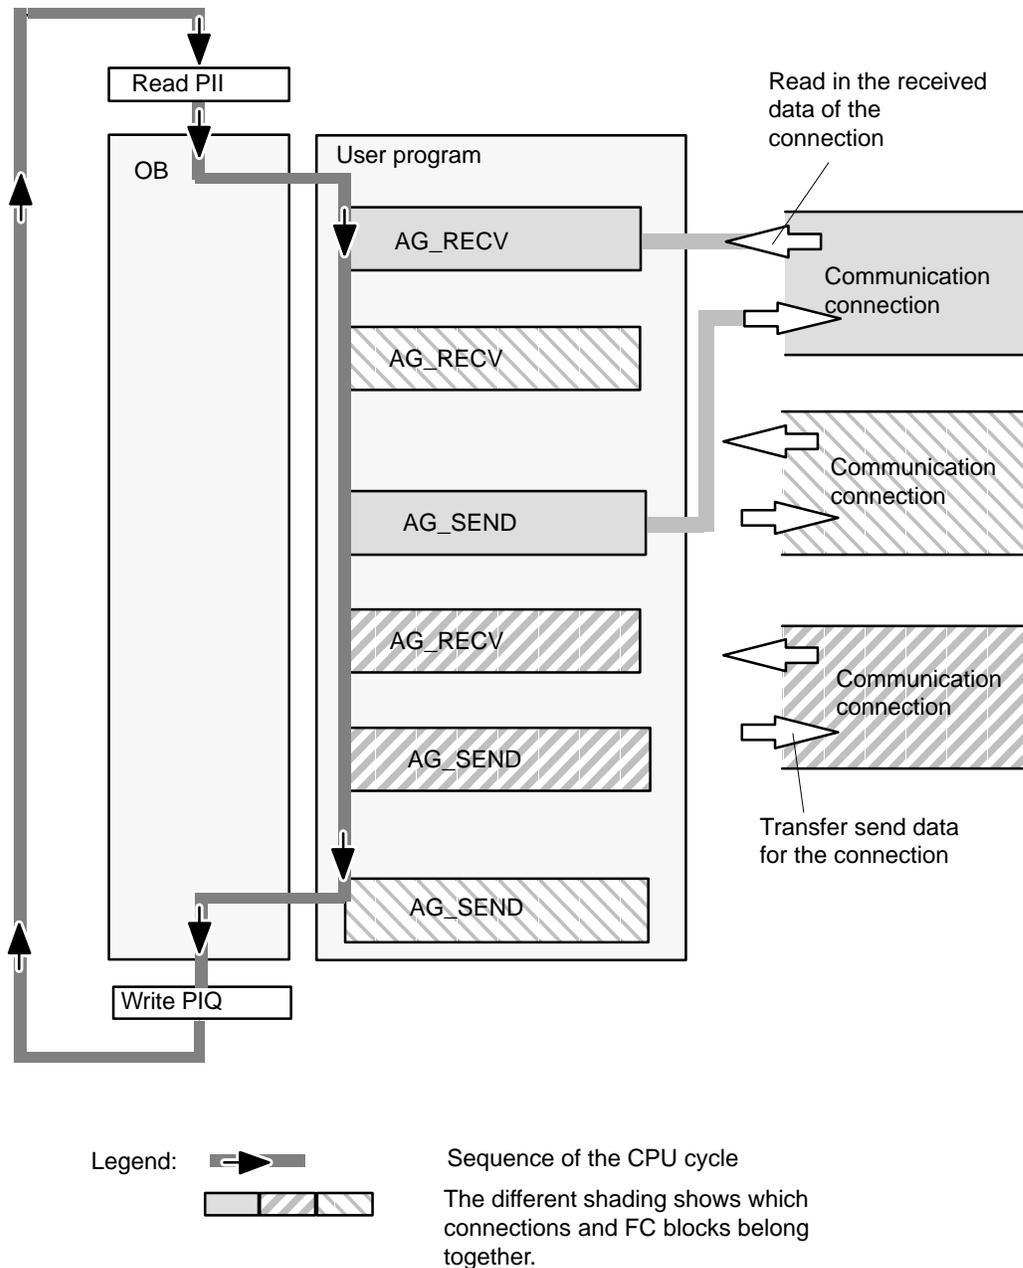

Figure 3-2 Typical Sequence of Function Calls in the CPU Cycle
- The user program consisting of any number of blocks (OBs, FBs or FCs → see /5/ accesses several connections (Figure 3-2 illustrates three connections).